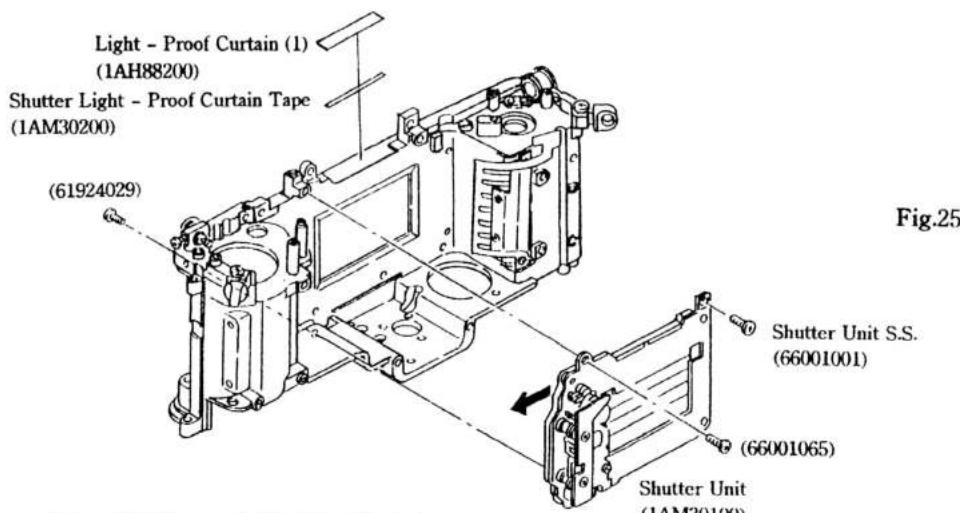

Fig.25
- 1) Peel off the Light - Proof Curtain (1) (1AH88200).
- b) The Light - Proof Curtain (1) is attached to the Body with the Shutter Light - Proof Curtain Tape (1AM30200).
- c) When installing the Shutter Unit, push the Shutter Unit in the direction of the arrow as shown in Fig. 25 and tighten the Shutter Unit Setscrews.